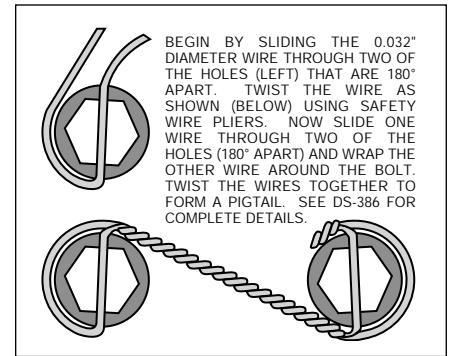

Figure 3. Safety Wire Diagram
•The rotor (3) has two sides. A flat side and an inset side. Bolt hat (2) to flat side of rotor (3) using lock washers (4) and bolts (5). Torque bolts (5) to 180 **in-lb**. Safety wire bolts (5) using standard 0.032 inch diameter stainless steel safety wire as shown in Figure 3. Please refer to Wilwood's data sheet DS-386 (available at www.wilwood.com/pdf/ds386.pdf) for complete safety wire installation instructions.
•Align the correct hole pattern in the hat (2) with the stud pattern on the axle flange. **NOTE:** Some OEM and after market axles come with stud sizes larger than 0.50" diameter. Verify stud size and have a qualified machine shop drill the hats to the correct size. Slide the hat/rotor assembly (2 and 3) over the wheel studs and against the axle flange face.
•**NOTE:** Please reference the caution statement at the beginning of the assembly instructions. WITH THE BLEED SCREWS POINTING UP, mount the caliper (6) over the rotor (3) and onto the caliper mounting bracket (1) using lock washers (7) and mounting bolts (8). View the rotor through the top opening of the caliper. The rotor should be aligned in the center of the caliper. If not, adjust the caliper by using 0.032 inch shims (9) by placing them between the caliper mounting bracket (1) and the caliper (6). Apply red *Loctite*® 271 to the mounting bolt threads (8), torque to 30 ft-lb. Safety wire the caliper mounting bolts (8).
•Position the Wilwood disc brake pads (10) into the caliper (6) and fasten with cotter pin (11). Steel backing plate side of brake pad should face the caliper pistons.